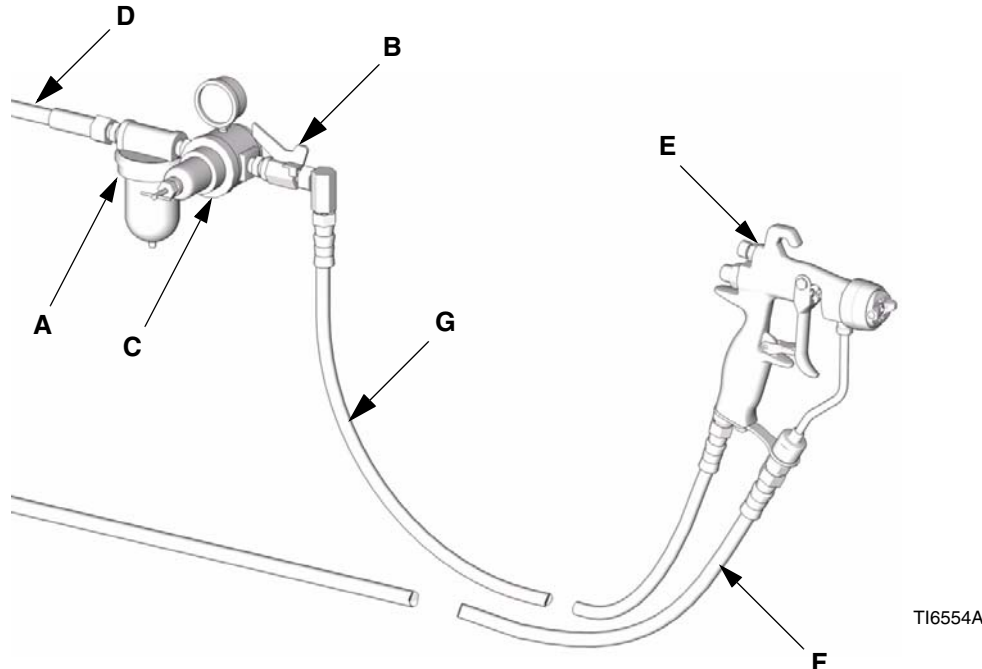

FIG. 1: Typical Installation (Model G15 Shown)
The typical installation shown in FIG. 1 is only a guide for selecting and installing air-assisted spray systems. Contact your Graco distributor for assistance in designing a system to meet your needs.
1. Install an air filter (A) on the gun air line to ensure a dry, clean air supply to the gun. Dirt and moisture can ruin the appearance of your finished workpiece. See FIG. 1.
2. Install an air pressure regulator (C) on the gun air line to control air pressure to the gun.
3. Install an air shutoff valve (B) on the gun air line and on the pump air line, to shut off air to the gun.